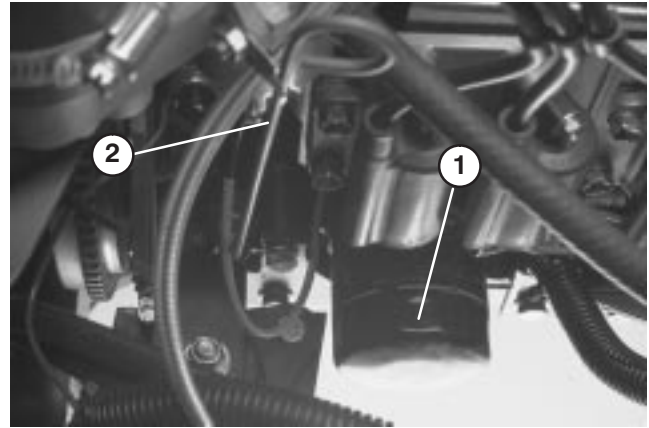

Figure 33
1. Remove and replace oil filter (Fig. 33); refer to parts catalog for part number.